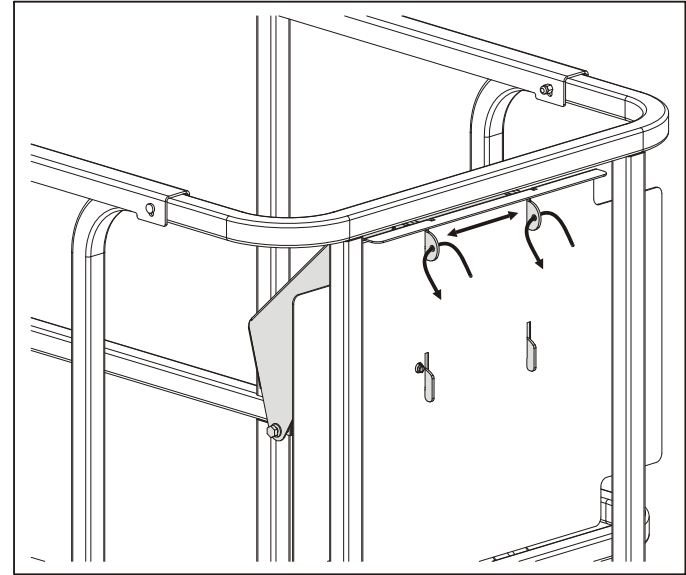

Figure 3-9. Securing Control Station to Platform
6. Turn the power selector switch to "Off" and remove the key to disable the machine and prevent unauthorized use. The platform control station can also be secured to its mounting plate, see Figure 3-9.